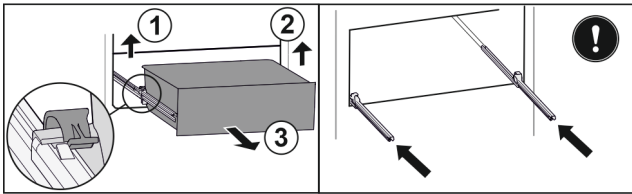

Fig. 69
- ▶ Lift left clamp and simultaneously pull drawer forwards on the left. Fig. 69 (1)
- ▶ Lift right clamp and simultaneously pull drawer forwards on the right. Fig. 69 (2)
- ▶ Remove drawer to the front. Fig. 69 (3)